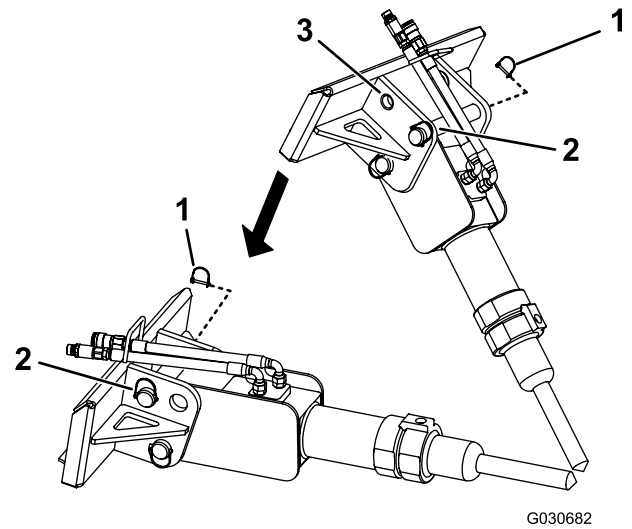

Figure 3
2. Remove the snapper pin securing the front mounting pin (Figure 3).
3. Remove the front breaker pin from the breaker (Figure 3).
5. Install the front mounting pin in the upper holes and secure it with the snapper pin (Figure 3).
- Many materials do not respond well to continuous hammering in one place. Each time that the breaker penetrates the material without breaking it, move it to a new location in a line parallel to the edge of the material, about 7.6 cm (3 inches) from the previous hole. This scores the material and if done repeatedly, breaks off a large piece of the material (Fig. 3).